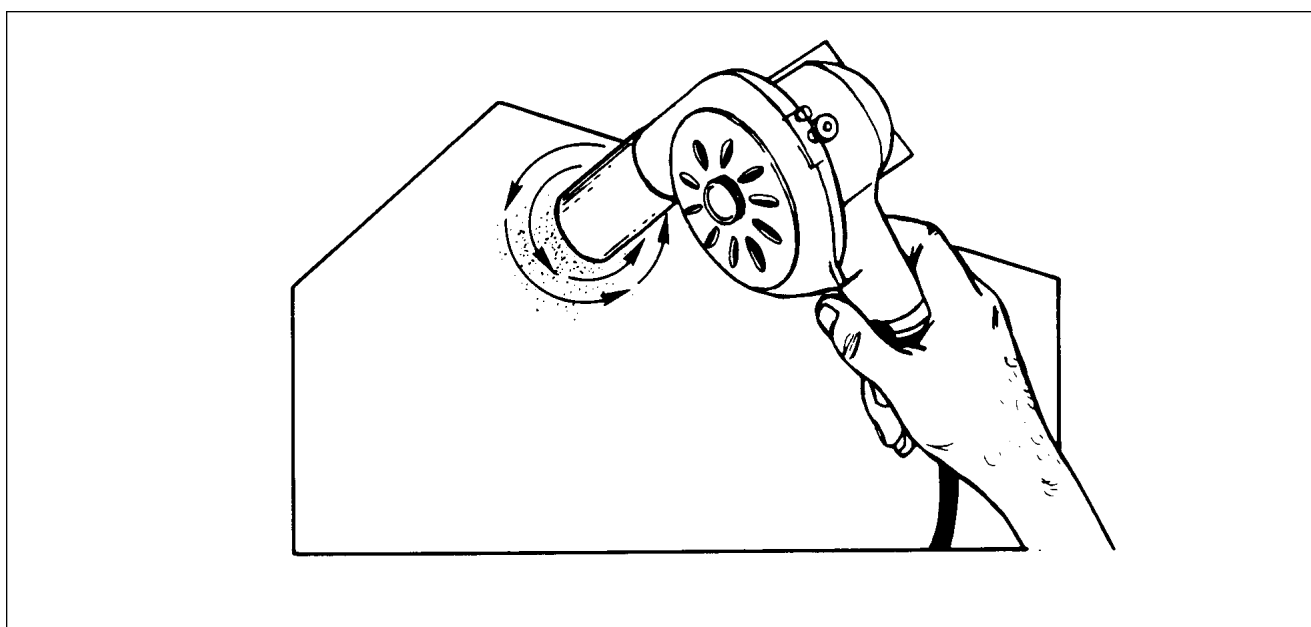

Figure 51-3. Surfaces Scratches, Abrasions or Ground-In Dirt
2. Surface scratches, Abrasions or Ground-in-Dirt: (Refer to Figure 51-3.)